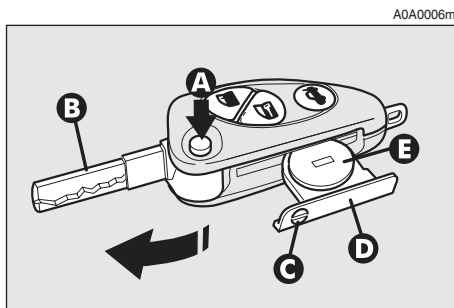

fig. 5
- press button (A-fig. 5) and move the metal insert (B) to the open position;
- using a finely-tipped screwdriver, turn the opening device (C) and pull out the battery holder (D);
- replace the battery (E) making sure that the bias is correct;
- insert the holder back in the key and lock it, turning the device (C).